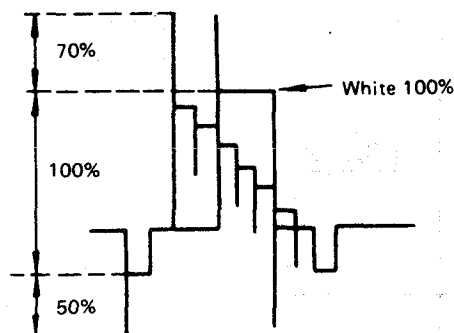

Figure 51.
3. Observe the output of TP203 with an oscilloscope and adjust R223 (white clip control) and R222 (dark clip control) so that the output waveform is as shown in Figure 51.